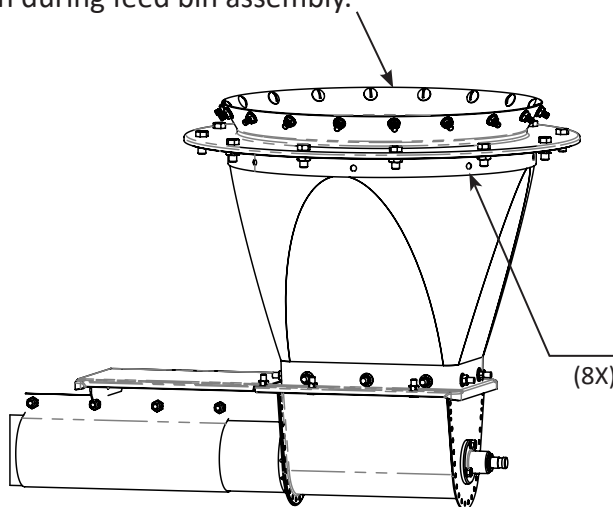

Figure 20
- Use the bottom collar holes as guides to drill 11/32" (8.8 mm) diameter holes 8 times in the upper rim of the plastic transition (Figure 20).